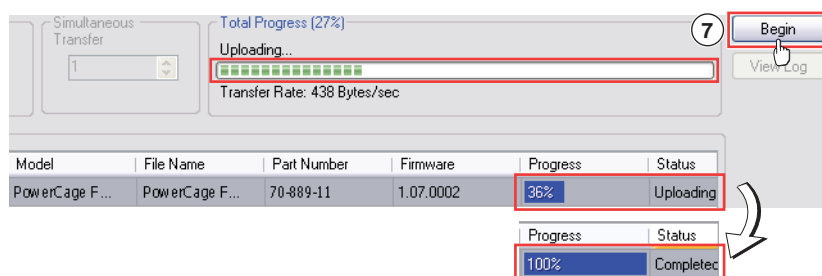

Figure 24. Firmware Loader Screen
7. In the Firmware Loader window, click **Begin** (see figure 24).